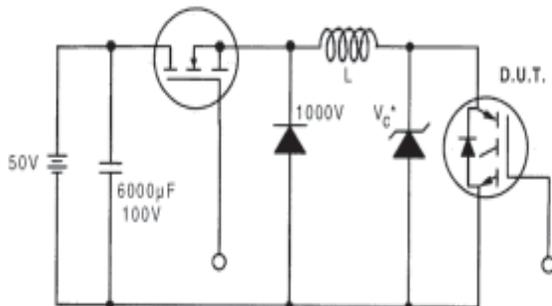

Figure 19. Clamped Inductive Load Test Circuit
- ② $V_{CC}=80\%(V_{CES})$, $V_{GE}=20V$, $L=10\mu H$, $R_G=5.0\Omega$ (figure 19)
- ③ Pulse width $\leq 80\mu s$; duty factor $\leq 0.1\%$
- ④ Pulse width $5.0\mu s$, single shot
- ⑤ Current limited by the package, (Die current = 100A)